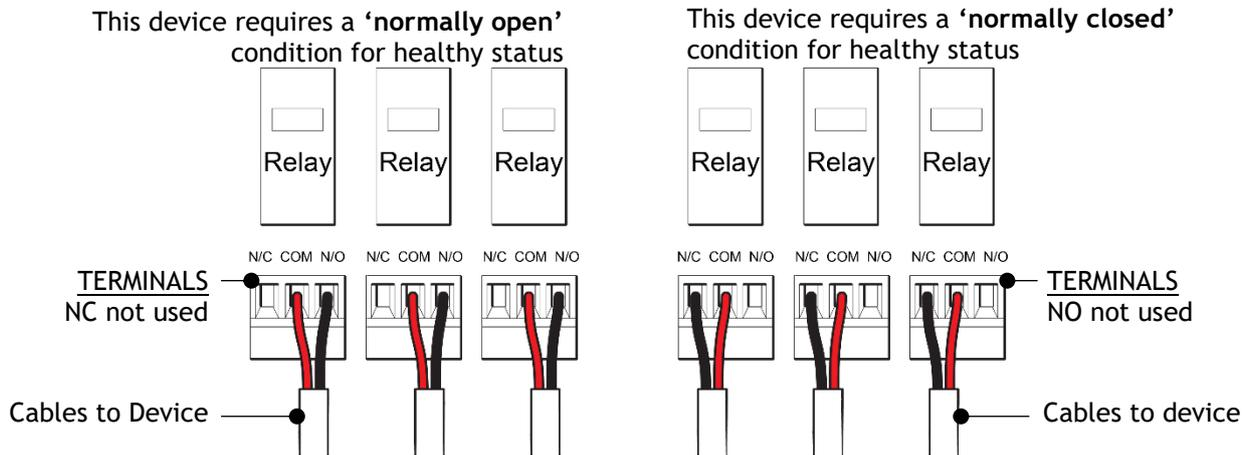

Figure 11: Connection of Master Panel for Signalling to an Ancillary Device
2. Connect to the relevant relay (Figure 11; core colours are for illustrative purposes only and may differ during application).